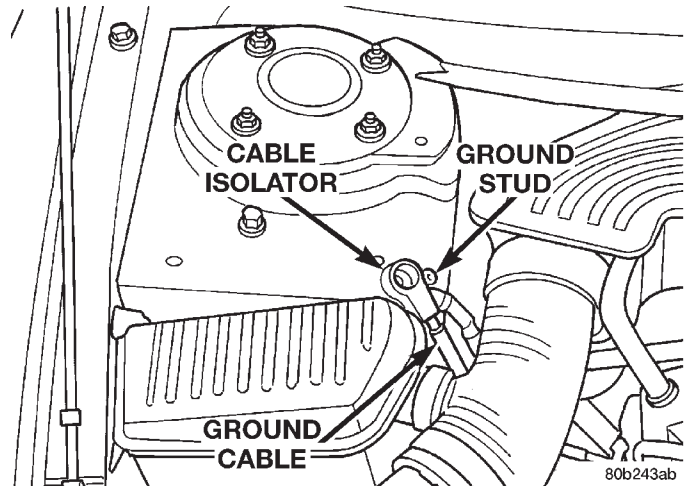

Fig. 34 Correctly Isolated Remote Ground Cable
(1) Remove the battery ground cable from the ground stud on the shock tower and isolate it cable by installing the cable isolator on the ground stud (Fig. 34).